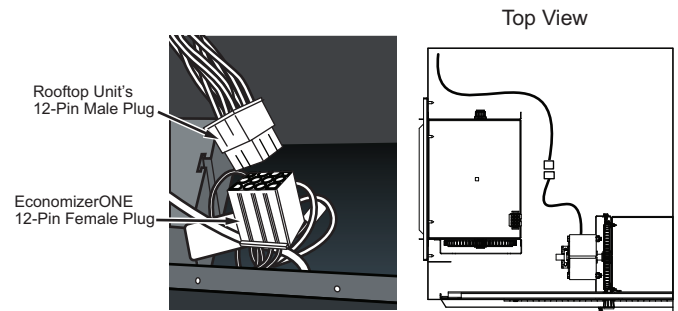

Fig. 11 — Connect EconomizerONE Harness to Unit PL6 Economizer Harness
23. Remove and save the 12-pin jumper plug from the unit economizer harness located in the upper left corner of the unit. Insert the EconomizerONE plug into the unit wiring harness. (See Fig. 11.)